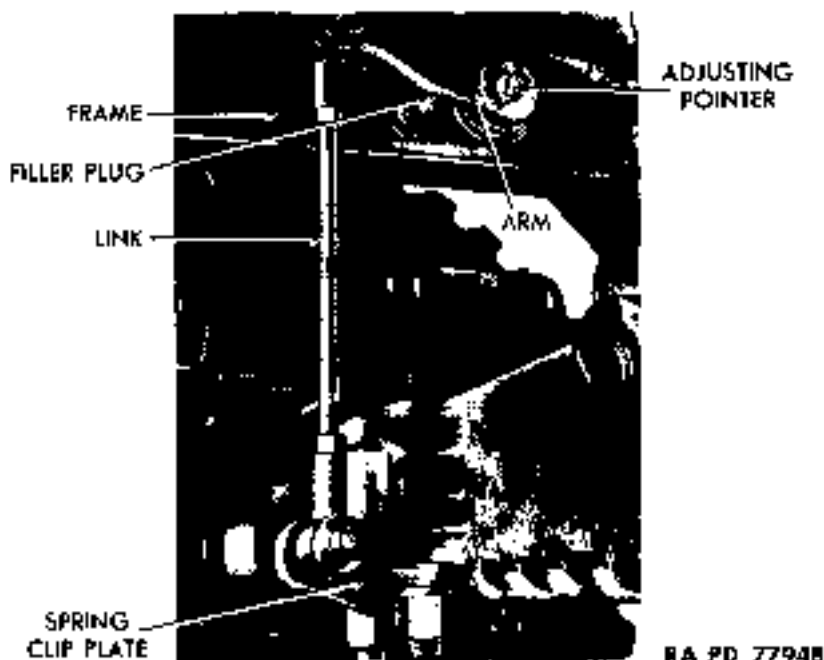

Figure 85 - Front Shock Absorber Installed
(1) **DESCRIPTION** (figs. 85 and 86). Four shock absorbers are attached to inside of frame side rails. The front shock absorbers are in front of front axle, and the rear shock absorbers are behind rear axle. Shock absorbers are a double acting, oscillating-valve type. They are used to control spring action, and offer more resistance to spring recoil than to spring compression.
(1) **MAINTENANCE** (figs. 85 and 86). Check fluid level and refill, if necessary. To fill shock absorber, observe the following procedures:
(2) **ADJUSTMENT** (figs. 85 and 86). No adjustment of links is required. Shock absorber arm tension is increased or decreased by turning an adjusting pointer outside the shock absorber. Turn pointer counterclockwise to increase resistance, or clockwise to decrease resistance. Make adjustment one mark or $\frac{1}{16}$ inch at a time. **NOTE:** Full range of adjustment is one-half turn or between the two stops. Do not turn pointer beyond these stops.
c. **Removal** (figs. 85 and 86).
d. Installation (figs. 85 and 86).